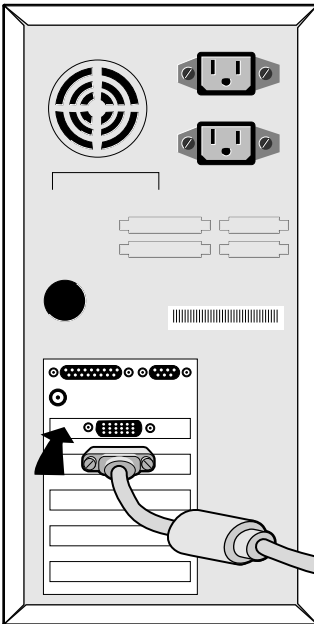
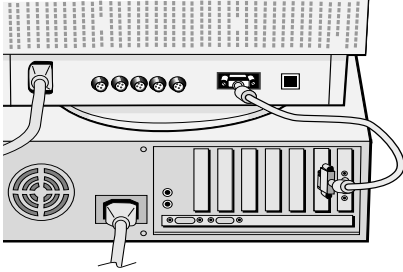

Figure A.1
Figure A.2
2. For the PC: Connect one end of the 15-pin mini D-SUB signal cable to the connector of the display card in your system (**Figure A.1**) and the other end to the back of the monitor (**Figure A.2**). Tighten all screws.